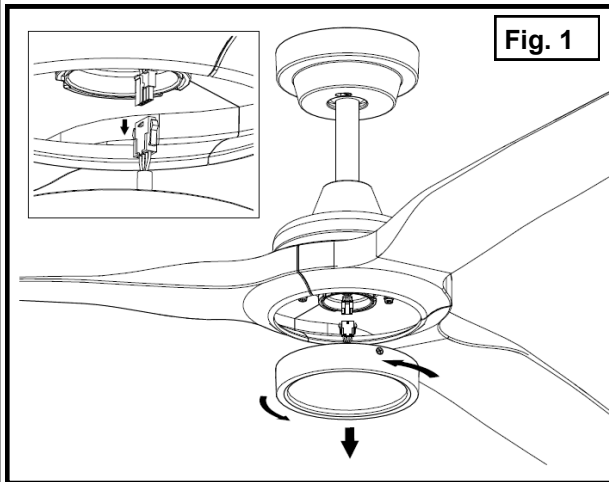

Fig. 1
- Occasionally there may be a poor signal (location) received by the handpiece. This can be improved by ensuring the antenna is outside the top canopy (see below Fig.1 & 2).